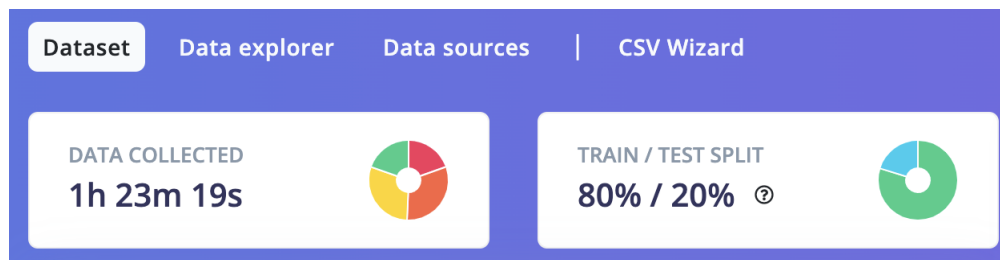

Figure 10.1: Once the data is uploaded this figure shows what your project should look like.
- (g) Once your data is uploaded, the page should look similar to Figure 10.1